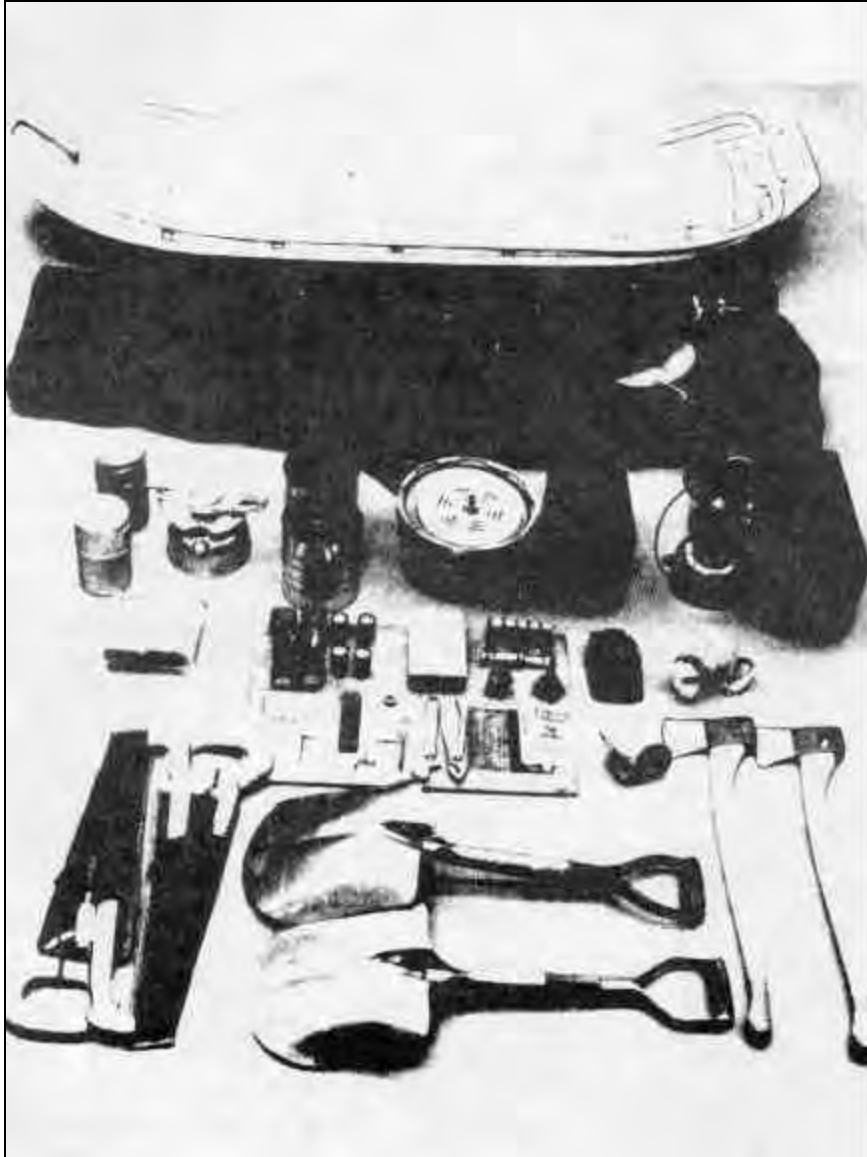

Figure 2-10A A suggested Toboggan Load
- b. Starting from the back end or from where the handle hinges on the toboggan, load the toboggan as follows (see Figure 2-10A):
- (1) On Bottom of Toboggan
- (2) Spare Parts Box